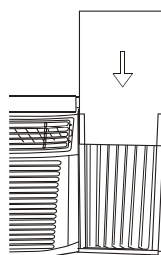

Fig.22
Step 3. Slide the R1 insulation panel into the side curtain, the side with pattern should facing the indoor (Fig.22).